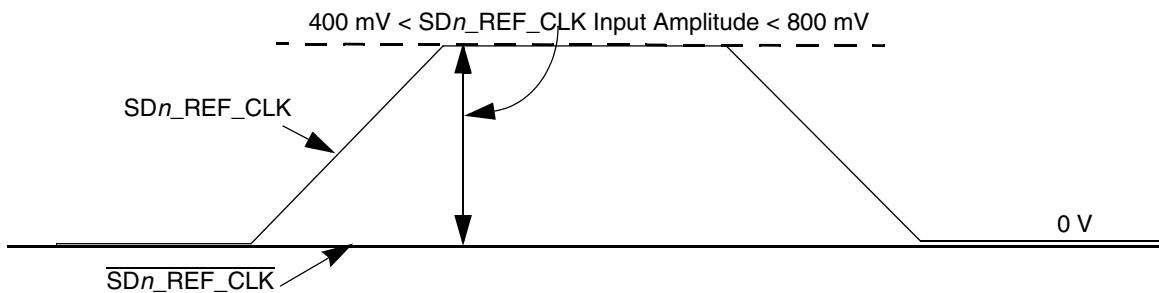

Figure 55. Single-Ended Reference Clock Input DC Requirements
- The SD $_n$ _REF_CLK input average voltage must be between 200 mV and 400 mV. Figure 55 shows the SerDes reference clock input requirement for single-ended signaling mode.